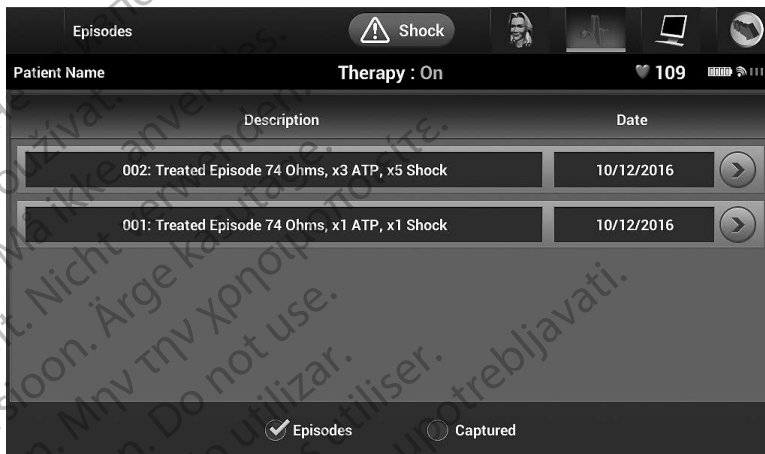

Figure 17: Episodes screen (scrollable list)
Note: *Choosing the “View” button in the Episodes row allows navigation directly to the list of stored episodes (Figure 17).*
4. Select the Episodes option to access the Episodes screen (Figure 17).
Note: In order to be available for printing, episodes must have been individually selected and viewed from the Episodes Screen (Figure 17).